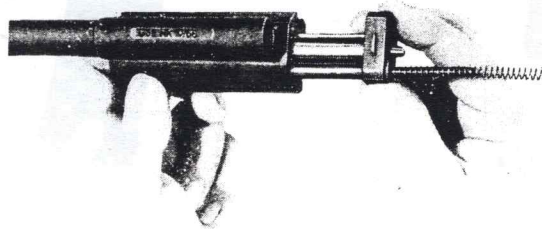

Fig. 71: Remove bolt head E
- Remove rearwards bolt head with guide bush and recoil spring with bolt head carrier E (Fig. 71).